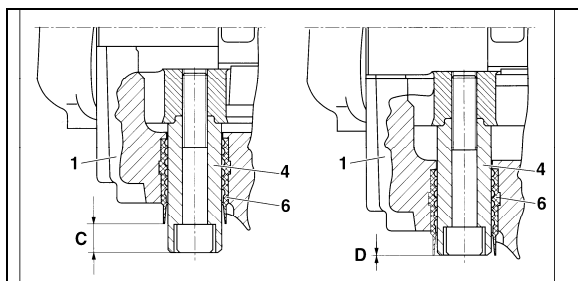

FIGURE 39: BRAKE PAD CHECK 12117
Brake pads have to be checked on a regular basis depending on the vehicle operation. The remaining thickness of the pads should never be less than 3/32 inch (2 mm). To check pad condition without removing the wheel, verify the position of guide bushing (6) relatively to guide sleeve (4) (Fig. 39). When guide sleeve is in alignment with guide bushing, brake pad thickness must be checked more precisely with wheel removed. When replacing the brake pads, all four pads on an axle have to be changed at the same time. There is no inner or outer pad, since all pads are the same. Worn pads should be replaced in the same position.